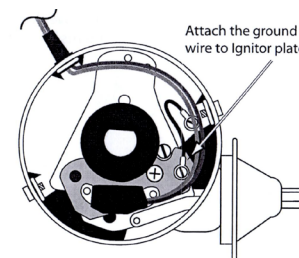

Figure 2
7. Attach ground wire to breaker plate and distributor housing, see figure 2.